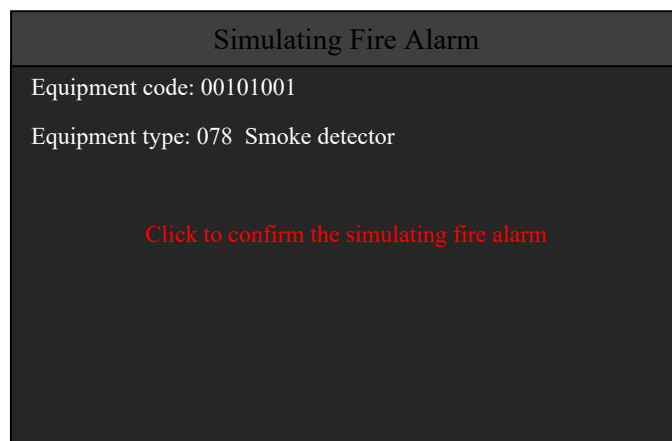

Fig. 3-22 Simulating fire alarm
In user setup interface, press number key 8 or move the cursor to 8, and then press "√" key to go into simulating fire alarm interface. The user can simulate fire alarm according to address number or quadratic code of equipment, as shown in Fig. 3-22.